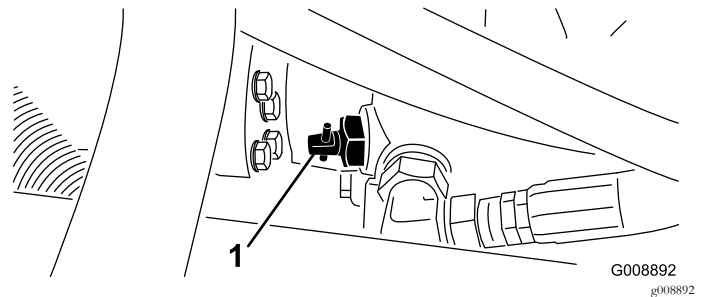

Figure 45
1. Locate the bypass valve on the pump (Figure 45) and rotate it 90°.